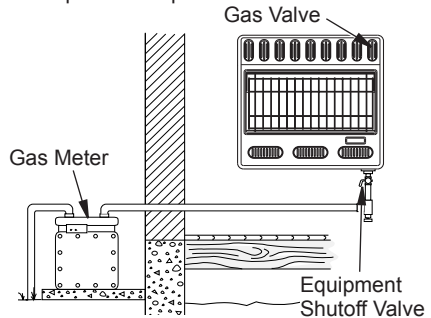
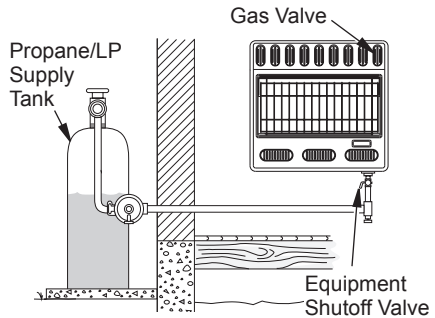

Figure 16 - Checking Gas Joints for Natural Gas
Figure 17 - Checking Gas Joints for Propane/LP Gas
3. Check all joints from gas meter for natural gas (see Figure 16) or propane/LP supply tank for propane/LP gas, to equipment shutoff valve (see Figure 17). Apply a noncorrosive leak detection fluid to all joints. Bubbles forming show a leak.
4. Check all joints from equipment shutoff valve to thermostat gas valve (see Figure 16 or 17). Apply a noncorrosive leak detection fluid to all joints. Bubbles forming show a leak.